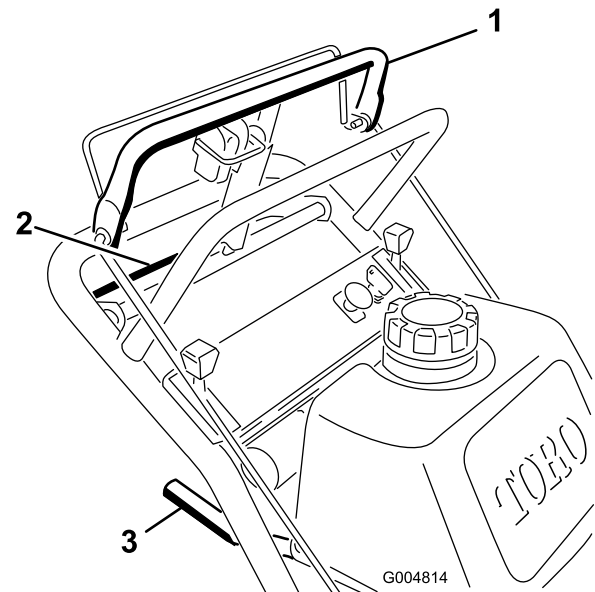
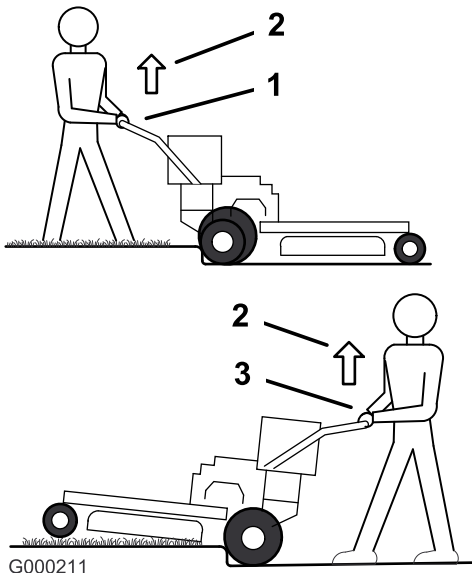

Figure 9
Figure 10
1. To go forward, move the shift lever to a forward gear (Figure 9).
3. Slowly press on the upper control bar to move forward (Figure 9).
To go straight, apply equal pressure to both ends of the upper control bar (Figure 9).
To turn, release pressure on the upper control bar side in the direction you want to turn (Figure 9).
3. Slowly squeeze the lower control bar and lower handle together to move rearward (Figure 9).
3. Drive machine until the castor wheels contact the curb (Figure 10).
4. Lift the front of the machine by pushing down on the lower handle (Figure 10).
5. Drive the machine until drive wheels contact the curb (Figure 10).
6. Lower the front of the machine (Figure 10).
7. At the same time, engage the lower control bar and lift up on the lower handle to drive over the curb (Figure 9 and Figure 10).
3. Drive the machine until drive wheels contact curb (Figure 10).
4. At the same time engage lower control bar and lift up on the lower handle (Figure 9 and Figure 10).